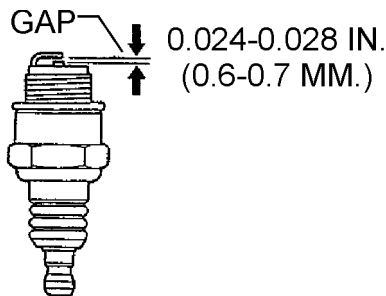

Figure 29. Spark Plug Gap
- Remove and clean the spark plug (Figure 29), then adjust the spark gap to 0.024 ~0.028 inch (0.6~0.7 mm). This unit has electronic ignition, which requires no adjustments.